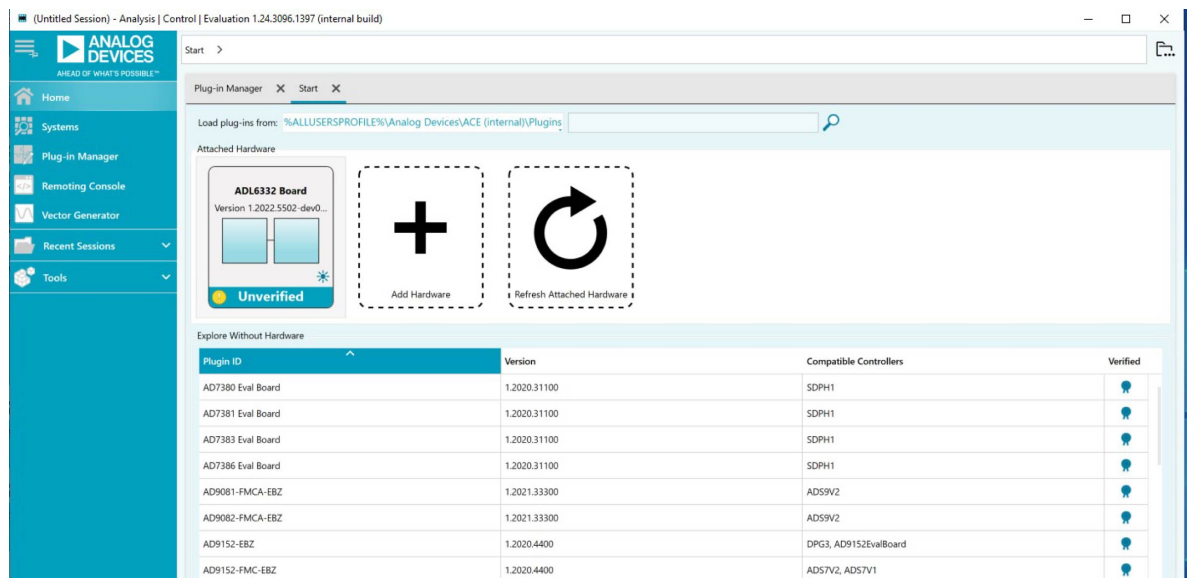
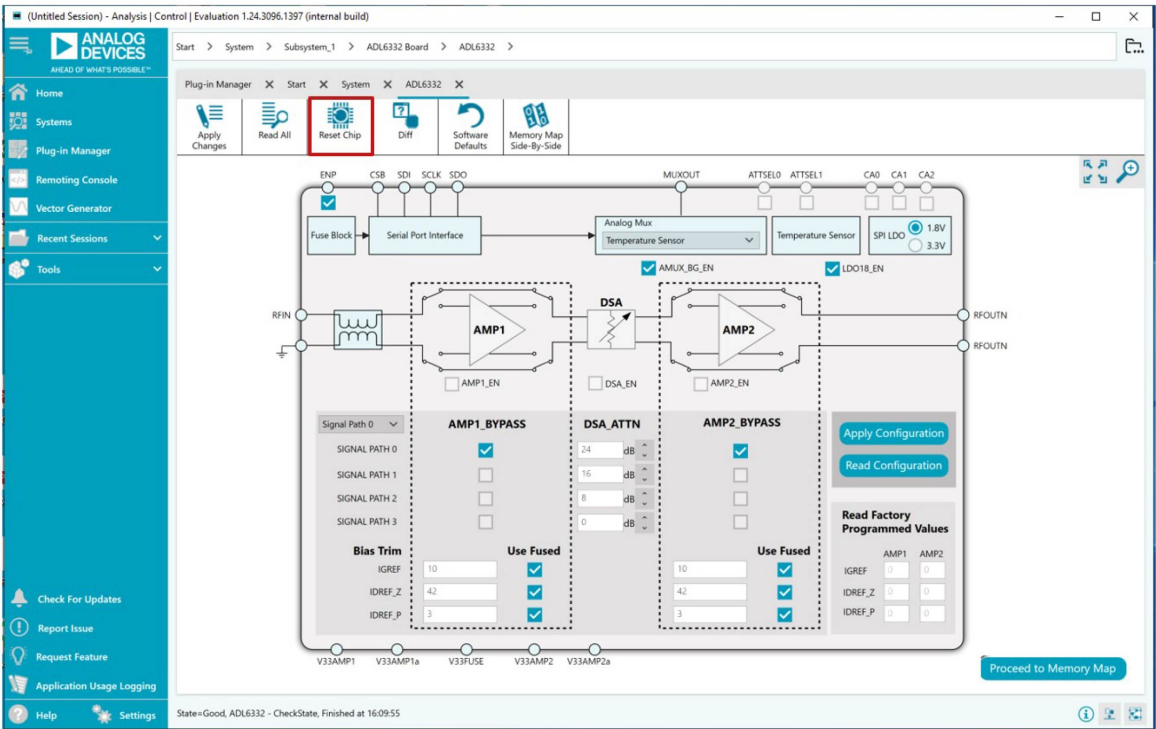

Figure 4. Initial ACE Start Page
Figure 5. Board Level View (After Reset Chip and ENP Set to High)
3. Launch the ACE application. This action displays the initial ACE start page, as shown in Figure 4. The ADL6332-EVALZA is detected automatically and displays under **Attached Hardware**. As soon as the ADL6332 is detected by the ACE software, the ACE software automatically sets ENP to high. However, since the AMP1, AMP2, and DSA blocks are all disabled by default, the current consumption is very low. Approximately, 3 mA is observed at the 3.3 V supply.
4. Click the **ADL6332** icon shown in Figure 4 to open the evaluation board level view (see Figure 5). After opening, click **Reset Chip** before starting configurations.